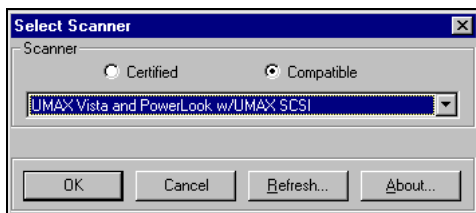

Figure 80. Select Scanner Dialog Box
- 8 Select **OK**. For ISIS and TWAIN scanner source types, a dialog box displays, similar to Figure 80.